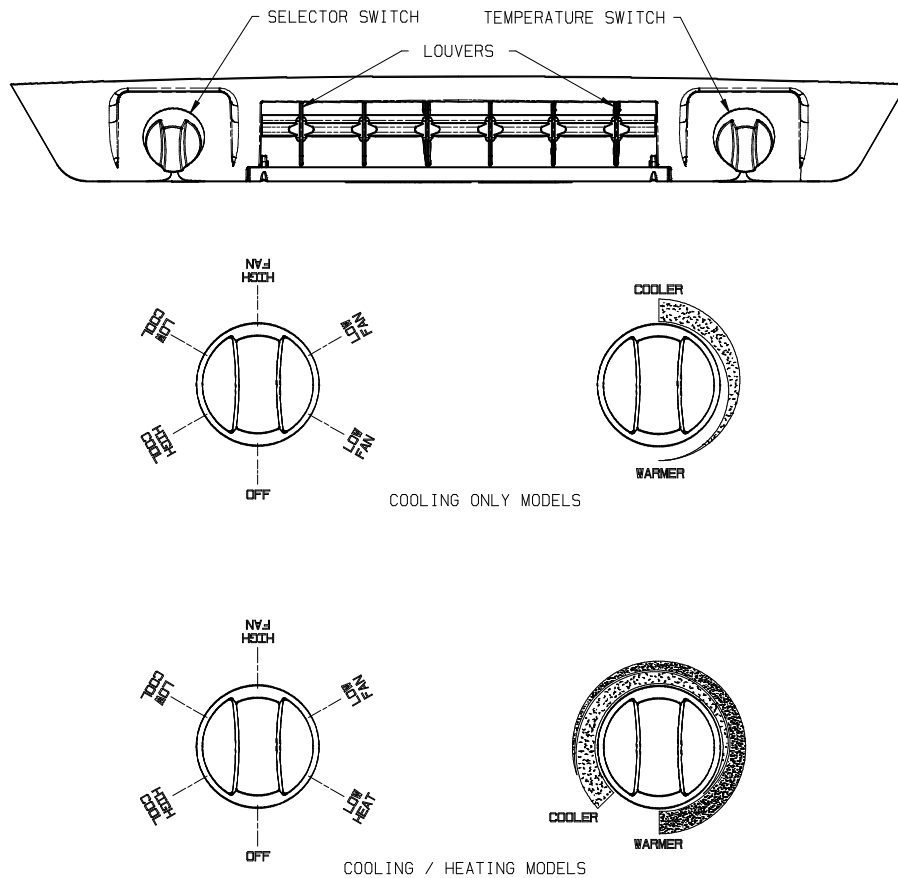

FIGURE 1
A. The Selector Switch – The selector switch determines which mode of operation the air conditioner will be in. By rotating the selector switch, the operator can obtain any system function desired. System functions vary depending upon options of both the roof top unit and ceiling assembly. Figure 1 shows selector switch location and lists all available functions by model.
For “Heat/Cool” models, the thermostat also controls the “ON” and “OFF” temperature settings of the heater assembly (See Figure 1).
I. For Cooling (Refer to Figure 1, page 3).
IV. For Heating (“Elect-A-Heat” Ceiling Assembly Model Only) Refer to Figure 1, page 3.
V. For Air Circulation Only (Refer to Figure 1, page 3).